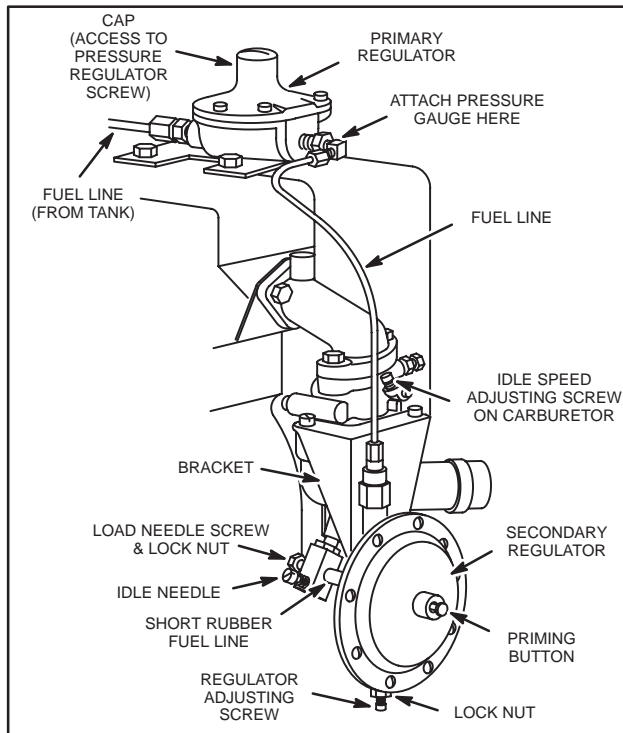

Fig. 300 – ADJUSTING CARBURETOR, LP FUEL SYSTEM
4. Shut off valve at cylinder, Fig. 300.
7. Remove cap or top of primary regulator, Fig. 300.
16. Secondary regulator must remain mounted so diaphragm is in a vertical plane, Fig. 300.
31. Retighten fuel line connections, Fig. 300.